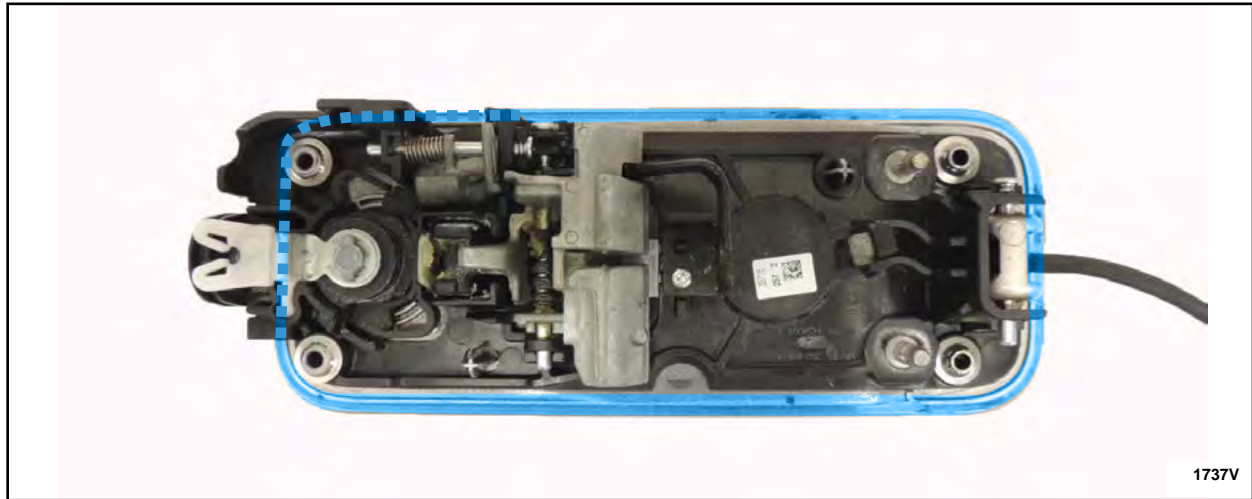

FIGURE 42
16. Using a clean shop cloth and isopropyl alcohol, clean the highlighted mating surface area of the exterior front door handle. See Figure 42.